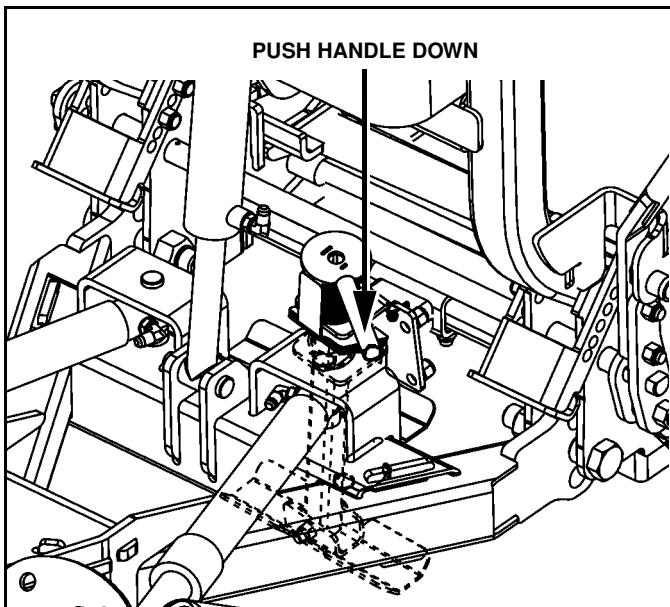

Figure 1-45
3. Remove the QuickJack™ locking pin and push the jackstand handle down to fully lower the foot to the ground. (See Figure 1-45).